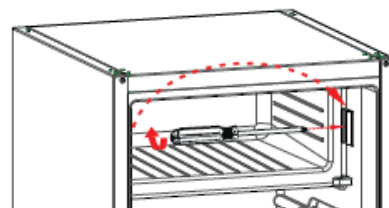

Fig. 8
- ▶ Undo the screws on the freezer compartment door lock and remove the lock. (Fig. 8)